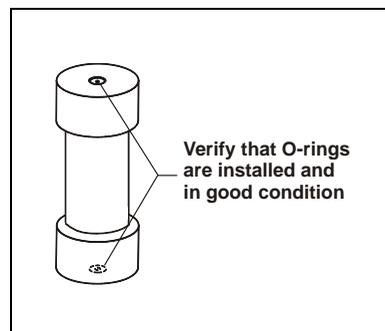

Figure 3-7. Inspecting Cell O-Rings
5. Check the ends of each cell end cap to verify that the O-rings are in place and are in good condition (see Figure 3-7).